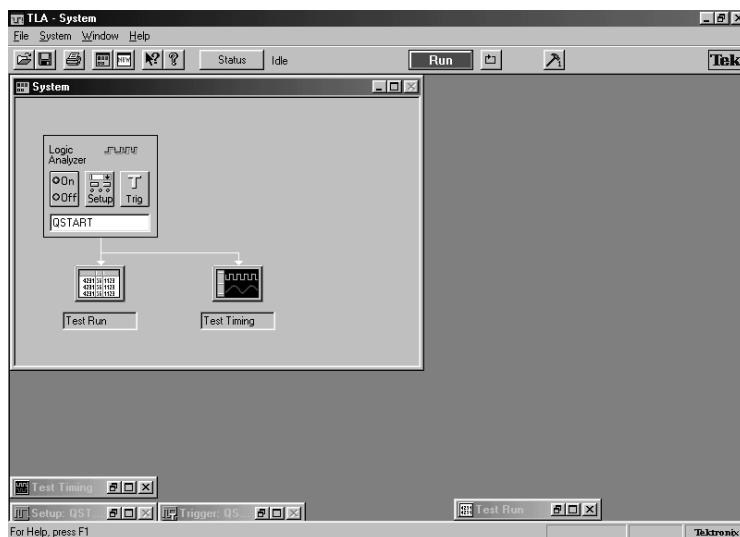

Figure 4-21: Restored system for Exercise 2
3. The display should look similar to Figure 4-21.